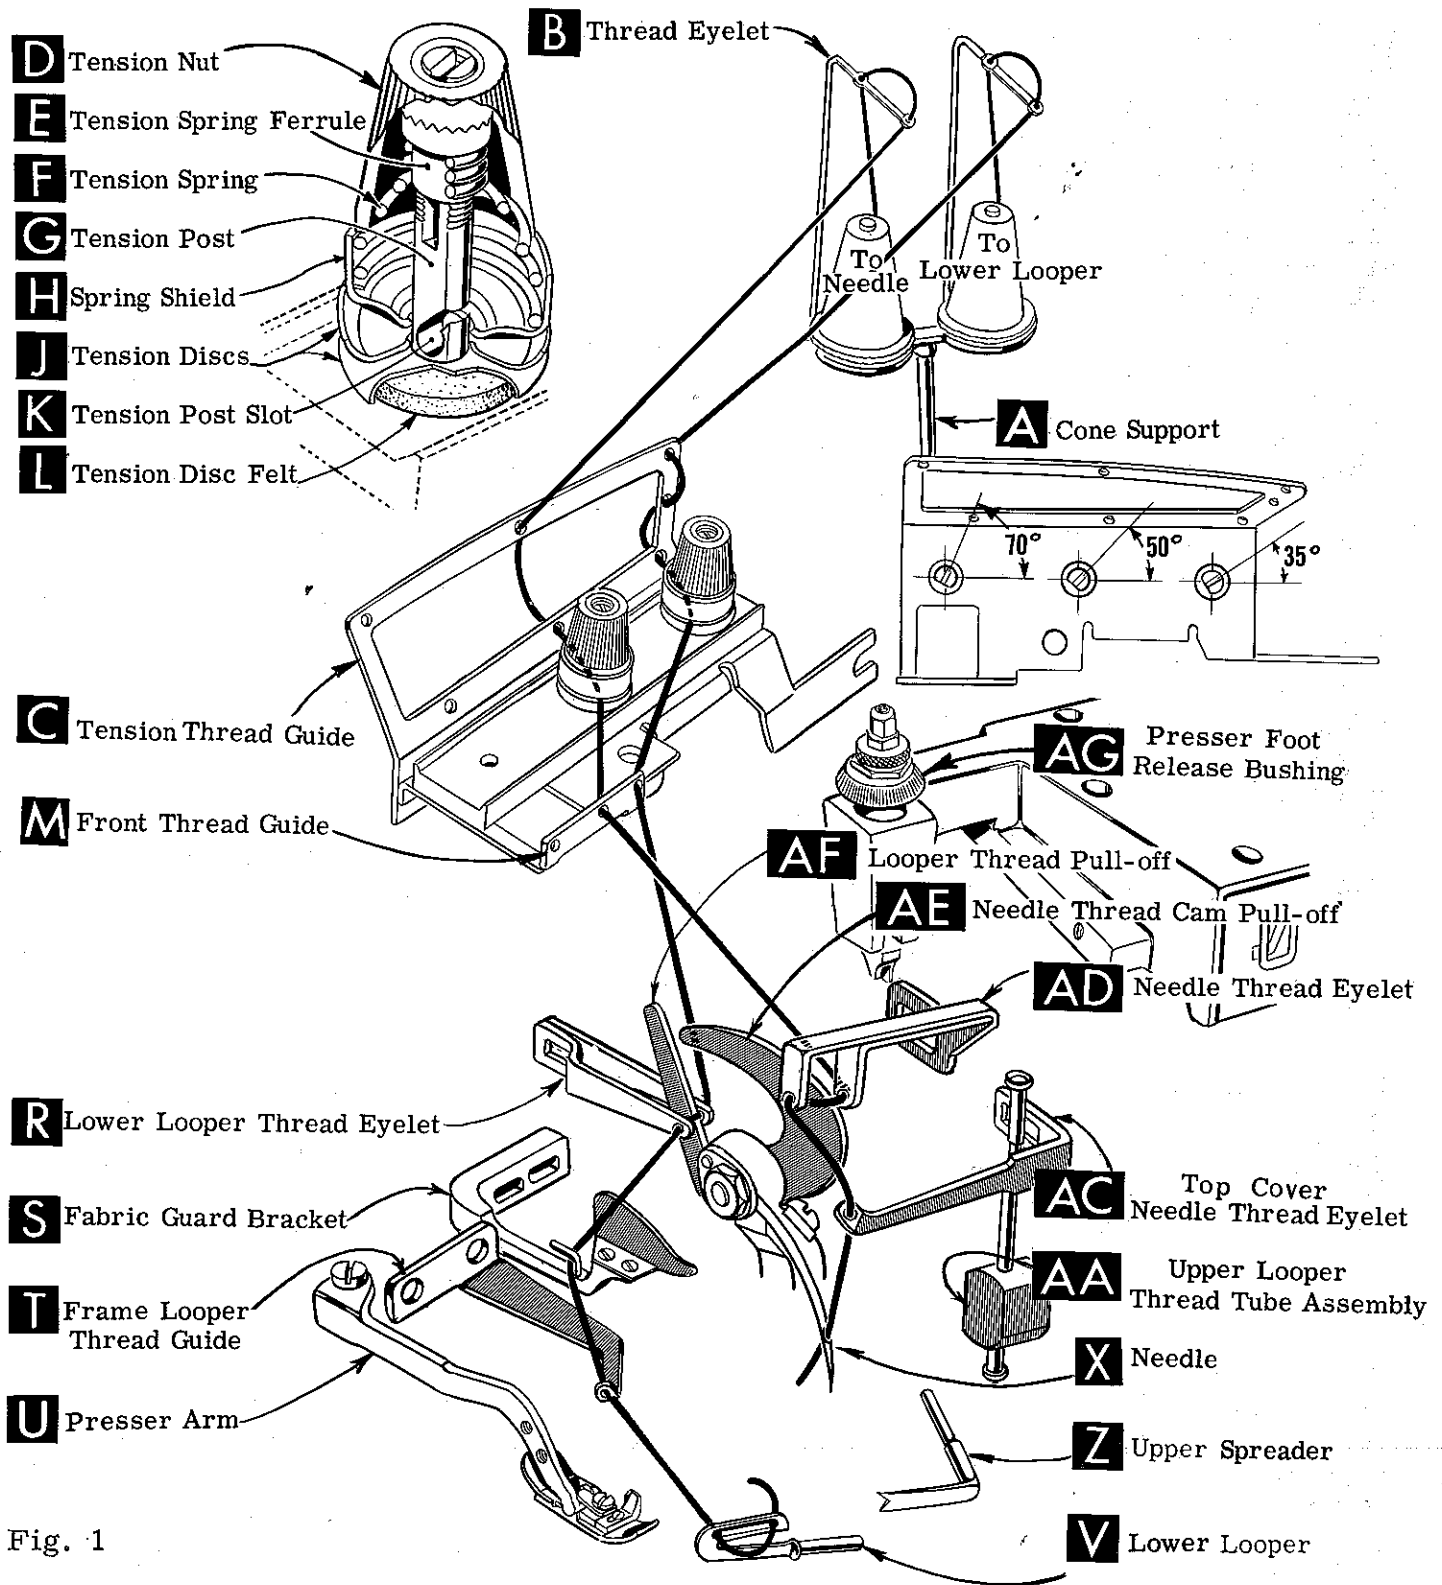

Fig. 1
Release pressure on presser foot by turning presser foot release bushing (AG, Fig. 1) and swing presser arm (U) out of position. Turn handwheel in operating direction until needle is at its lowest point of travel. Using hexagonal socket wrench No. 21388 AU, furnished with machine, loosen needle clamp nut about 1/4 turn. Again turn handwheel until needle is at high position; withdraw needle.
After thread comes from cone on cone support (A, Fig. 1) it is brought up through the back thread eyelet and then down through the front thread eyelet (B). The needle thread is then brought through the upper hole of tension thread guide (C) from front to back and then through the lower hole, from back to front. The lower looper thread is brought through the upper hole of tension thread guide (C) from back to front, through the middle hole from front to back and then through the lower hole from back to front. Both threads then continue between the tension discs (J), through tension post slot (K) in tension post (G) and on through eyelets in front thread guide (M).
Only the parts involved in threading the two thread machines are shown in the threading diagram (Fig. 1). Refer to threading diagram Fig. 1, page 6, in Catalog No. 103 FA for the threading the three thread machines. Parts are placed in their relative positions for clarity.
Double end of thread and lead it through both eyes of lower looper thread eyelet (R, Fig. 1) from right to left. NOTE: Thread must pass in front of looper thread pull-off (AF). Lead thread behind fabric guard bracket (S) and through frame looper thread guide (T). Turn handwheel in operating direction until heel of lower looper (V) is all the way to the left; then thread through both eyes from left to right. Left eye of lower looper can be threaded easily if tweezers are in left hand.
Turn handwheel in operating direction until needle (X, Fig. 1) is at its highest position. Insert needle thread from right to left, through both eyes of needle thread eyelet (AD), under neck of top cover casting; and then down through hole in top cover needle thread eyelet (AC). Thread needle from front.
The amount of tension on needle and looper threads is regulated by two knurled tension nuts (D, Fig. 1). Tension on threads should be only enough to secure proper stitch formation.
While sewing on material, check needle thread control as follows: Usually all needle thread is drawn on needle down stroke. At top of needle stroke, thread should be just tight enough to feed chain off stitch tongue. Stitch tends to pull down slightly if excessive thread is pulled on the up stroke. With needle at bottom of stroke, position needle thread eyelet (AD, Fig. 1) so that needle thread cam pull-off (AE) just contacts needle thread.
With material under presser foot, set lower looper thread eyelet (R, Fig. 1) back and down far enough so thread is a little slack when spreader reaches its extreme left position. Lower looper thread eyelet (R) should be about horizontal.
Setting 1 and 2 should be made quite carefully. If it can be determined by appearance that skip is definitely not a needle loop skip, reposition lower looper thread eyelet (R, Fig. 1) by lowering it slightly and bringing eyelet holes in close to bend in looper thread pull-off (AF). After this change, increase looper thread tension as much as possible without distorting stitch.